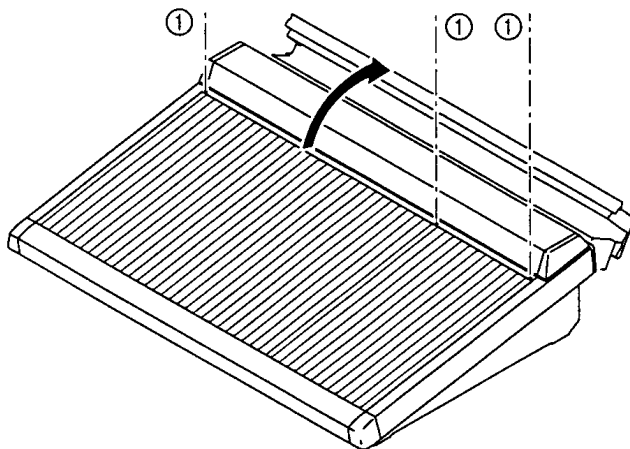

Fig.1
1. Loosen the screws ① on the front of the meter bridge. The number of screws differs according to the number of input channels. (Fig.1)
3. Open the meter bridge as shown in Fig.1.